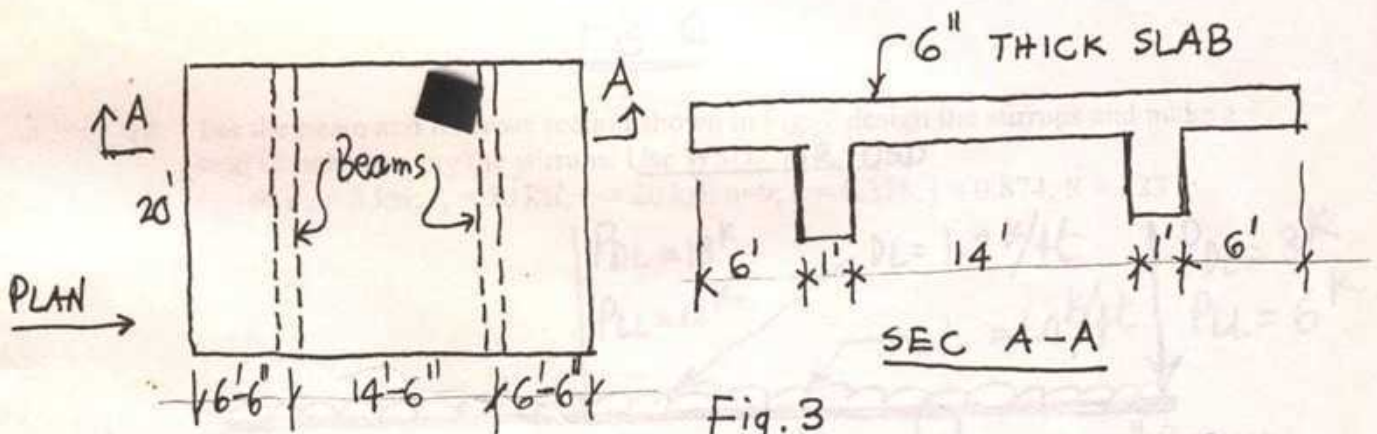

Fig. 3
8. A 6 in. thick slab (one way) is supported on RC beams as shown in Fig. 3. The calculated total dead load on the slab is 100 lbs/sft and the slab is subjected to a working live load of 80 psf. The live load can occupy any portion or any position on the slab. Calculate the critical design moments and show the necessary reinforcements in sketches. Use either WSD or USD. Given $f'_c = 3$ ksi; $f_y = 50$ ksi; $f_s = 20$ ksi; $n=9$; $k = 0.378$; $j = 0.874$; $R = 223$